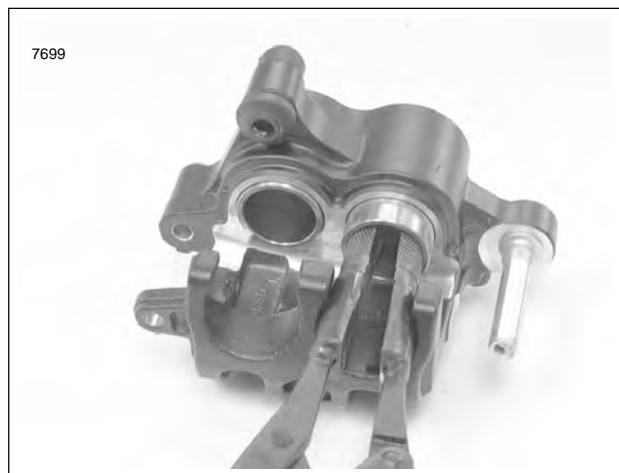

Figure 2-38. Removing Pistons
1. See Figure 2-38. Use BRAKE CALIPER PISTON REMOVER (Part No. B-42887) to pull the two pistons from caliper bores.